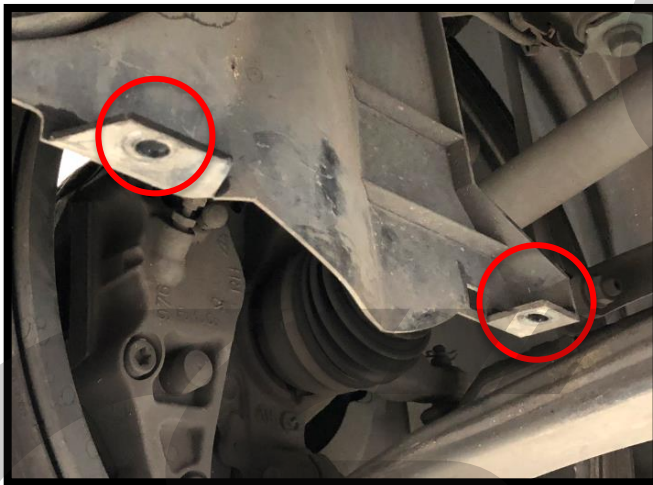
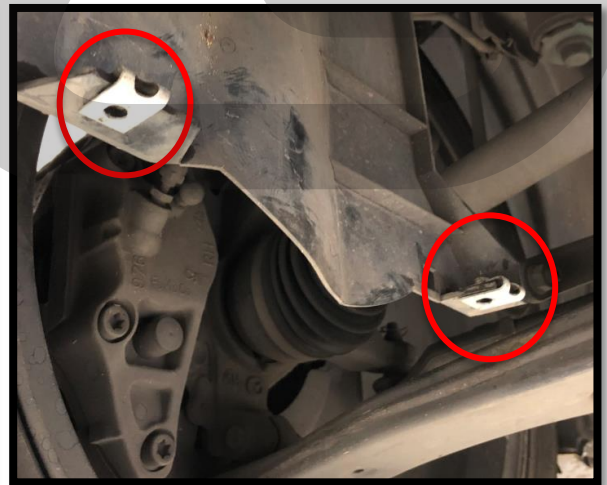

Figure 2b
Figure 2c
- b) Transfer the OEM U-nuts to the OEM plastic side splash shields. Figure 2b shows to correct locations. Figure 2c shows the OEM U-nuts installed.